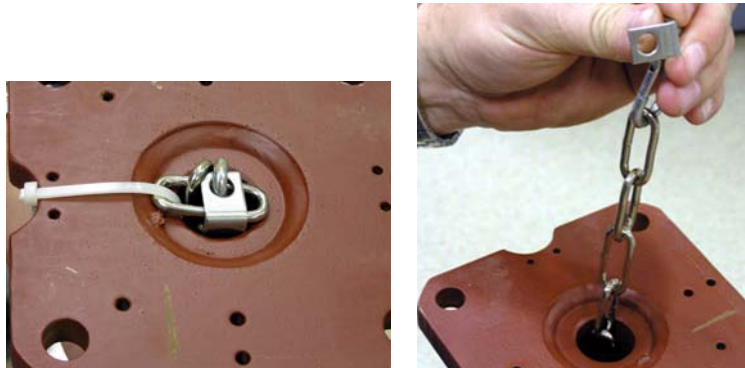

Figure 2-5 Safety Chain
- 5.) When attaching the safety chain (Figure 2-5), be sure the M10 bracket hardware is properly torqued. The torque for the M8 is 19.2N-m (14.2 ft-lbs).